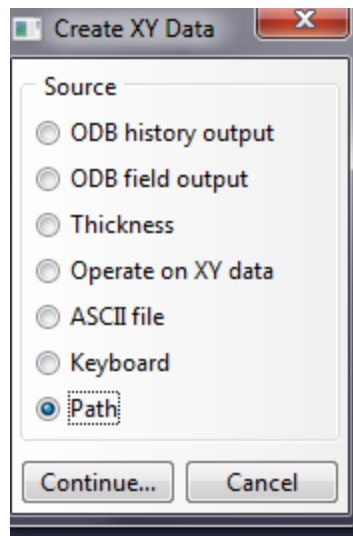

Figure 23
- In the Create XY Data menu select Path as in Figure 23